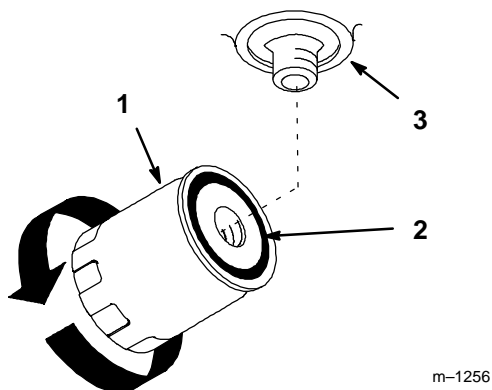

Figure 44
4. Apply a thin coat hydro fluid to the rubber gasket on the replacement filter (Fig. 44).
7. When fluid overflows filter turn the oil filter clockwise until the rubber gasket contacts the filter adapter, then tighten the filter an additional 1/2 turn (Fig. 44).